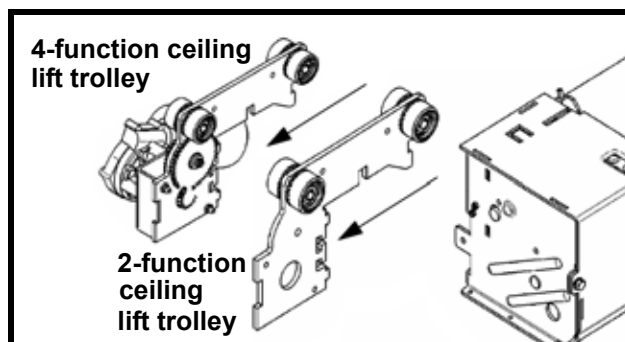

Fig. 22
- 4) Remove the trolley from the assembly (see Fig. 22).